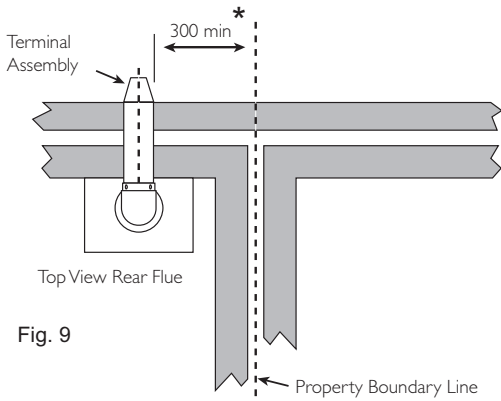

Fig. 9
**i** The distance from a fanned draught appliance terminal installed parallel to a boundary may not be less than 300mm in accordance with the diagram opposite (Fig. 9).